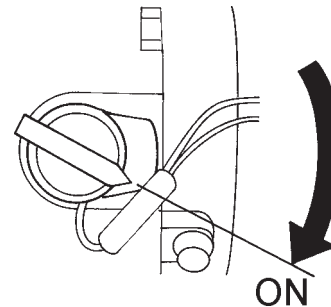

Figure 11. Engine On/Off Switch (ON)
4. Place the **engine ON/OFF switch** (Figure 11) in the "ON" position.
1. Place the **main circuit breaker** (Figure 11) in the **OFF** position.